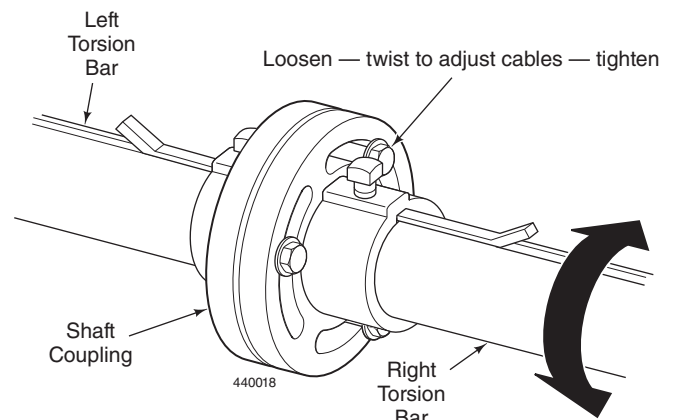

Figure 26
5. With both Cables attached, loosen the capscrews at the the Shaft Coupling. See *Figure 26*.